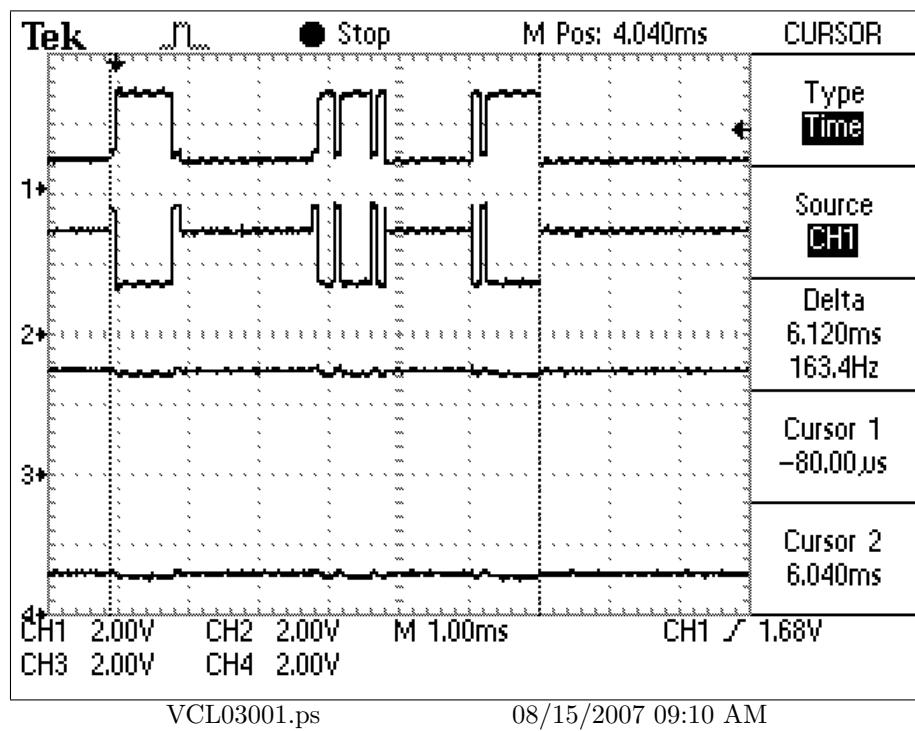

Figure 6: Overall timing for Preset 1 [capture3:overall]
1. In Figure 6, page 12 is shown the full PRESET 1 command.